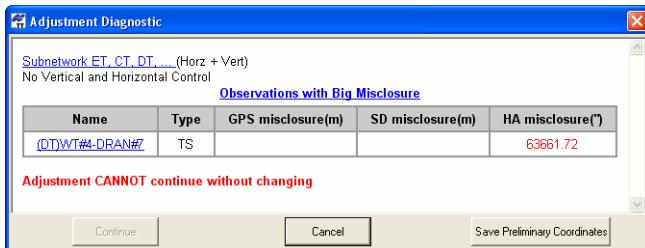

Figure 6-14. Messages After Comparing Observations with Corresponding Points
- For TS observations, if the difference in distances is more than 40 meters or in angles (horizontal or vertical) is more than 25 degrees, then the network adjustment is interrupted and the ***Adjustment Diagnostic*** dialog box displays (Figure 6-14).
- For GPS observations, if the difference in distances (computed as square root of sum of squared differences in all three coordinates) is more than 1000 meters, then the network adjustment is interrupted and the ***Adjustment Diagnostic*** dialog box displays (Figure 6-14).